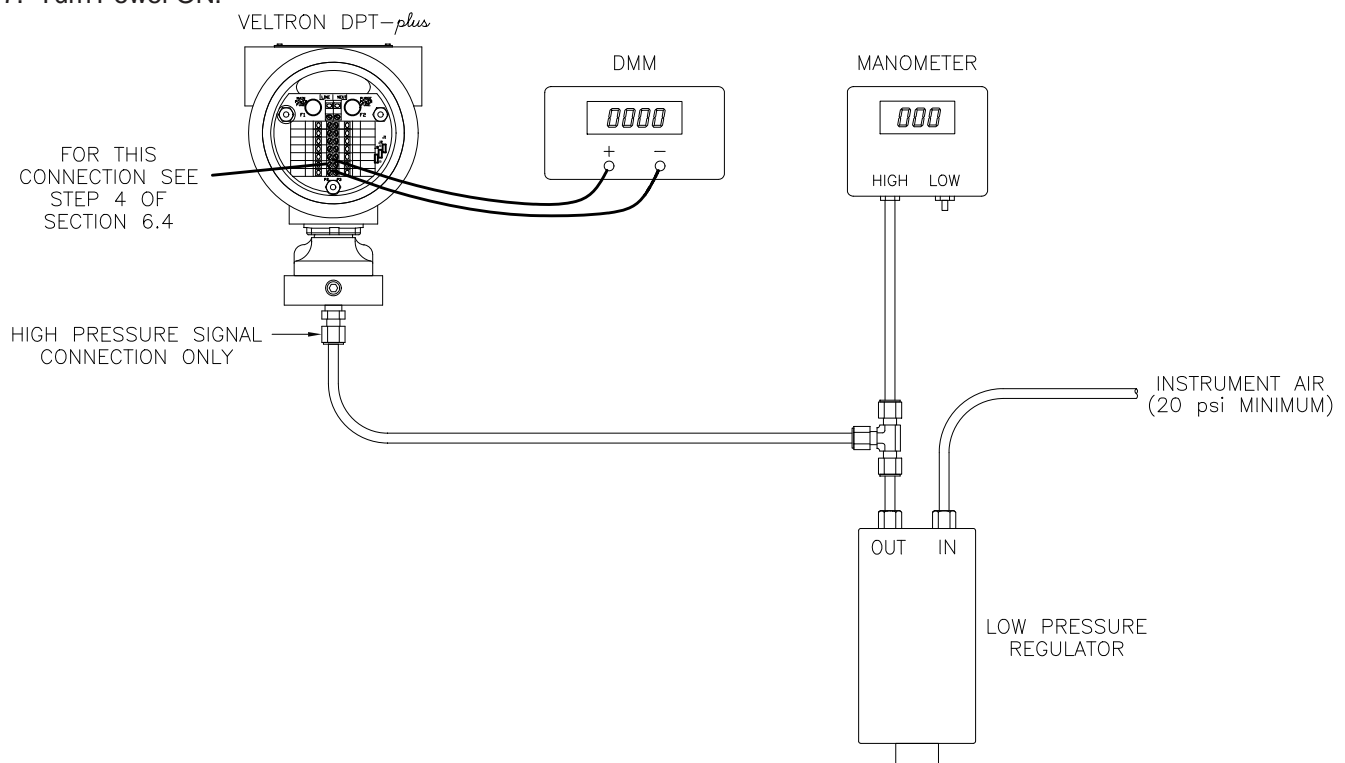

Figure 6.1
6. Prepare test equipment as shown in Figure 6.1.